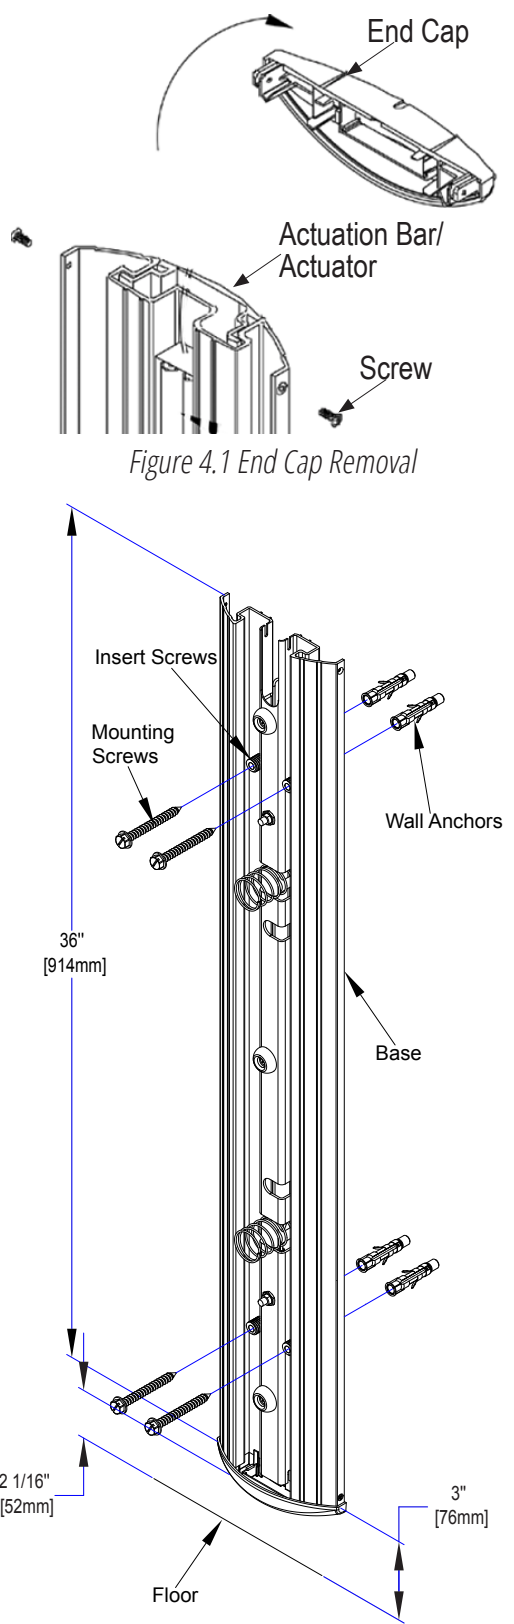

Figure 4.2 Mounting of Base Unit
3. Determine/mark the optimum height and mounting location from the finished floor to mount the Column™Switch. (See Figure 4.2 and 4.3)